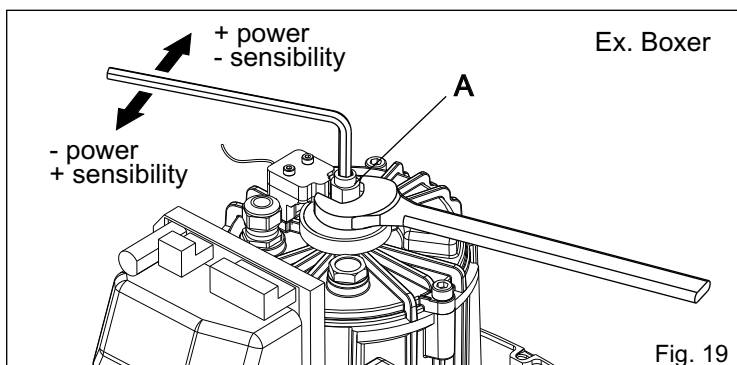

Fig. 19
- Act on the scrub screw "A" (Fig. 19) as follows: